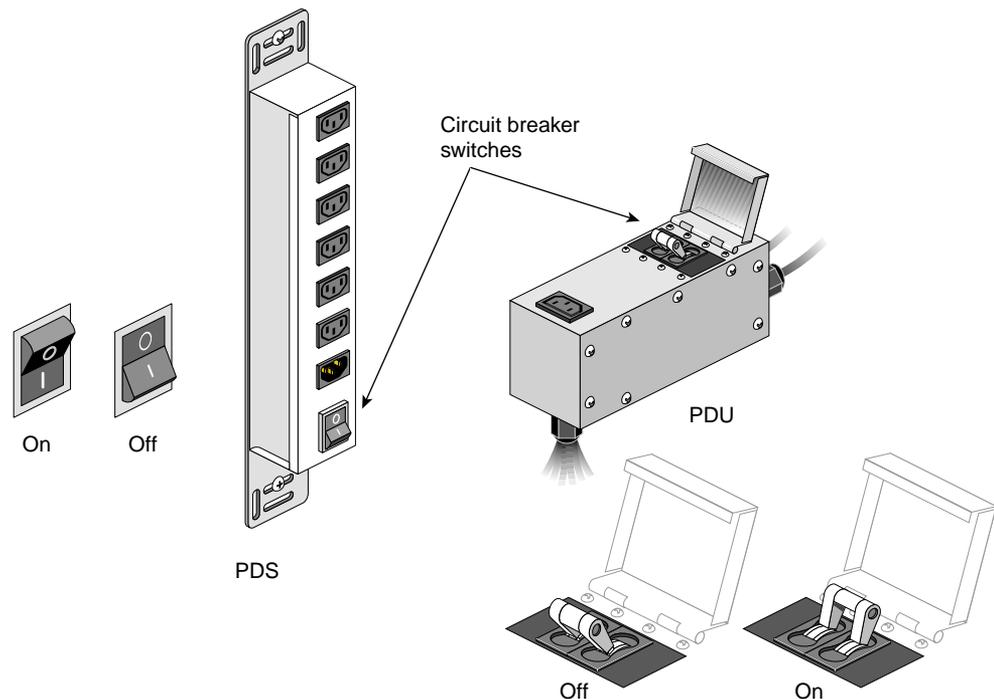

Figure 4-4 PDU or PDS Circuit Breaker Switches
1. Turn on the PDU and/or PDS circuit breaker switches (shown in Figure 4-4).
1. Turn the PDU and/or PDS circuit breaker switches (shown in Figure 4-4 on page 99) to the Off **(0)** position.